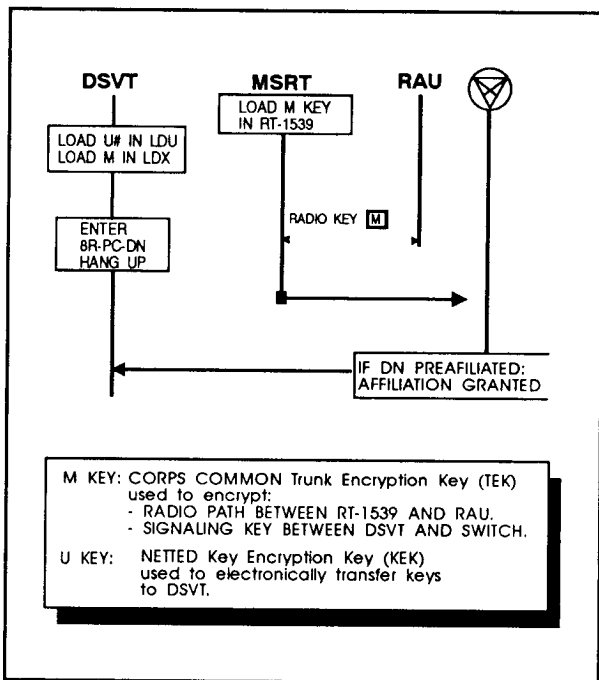

Figure 3-34. MSRT affiliation process.
- **Receiver-Transmitter (RT), RT-1539.** This is a very high frequency (VHF)-FM transceiver which is the heart of the MSRT. The RT-1539 is the radio used in the RAU. The radio operates in a full-duplex mode with a high and low frequency band for transmit and receive channels. In the RAU, the radio transmits in the high band and receives in the low band. This procedure reverses when the radio is used in the MSRT configuration. The RT-1539's power requirements are +21 to +33 VDC. Its levels of HF power are as follows: N0, 16W nominal; N1, 3W nominal; N2, 0.5W nominal. The continental United States (CONUS) mode is 30 to 35 MHz and 40 to 50 MHz. Outside continental United States (OCONUS) mode is 30 to 51 MHz and 59 to 88 MHz. Its radio planning range is 15 kilometers.
(1) Perform all the preoperational adjustments and settings in accordance with TM 11-5820-1021-10.
(2) Turn on the radio.
(3) Load the M key - Connect the KYK-13 to the fill connector on the front panel of the RT-1539, ensuring that the KYK-13 selector (1-6) is in the position containing the M variable and the selector switch is in the ON position. Raise the Fill/Zero switch on the RT-1539 four times in rapid succession. **DO NOT RAISE MORE THAN FOUR TIMES.** If the crypto alarm light goes off, the fill was successful. If the light remains lit, remove the KYK-13 and zero the RT-1539 then attempt to reload the M variable. See Figure 3-34.
(4) Install the DSVT.